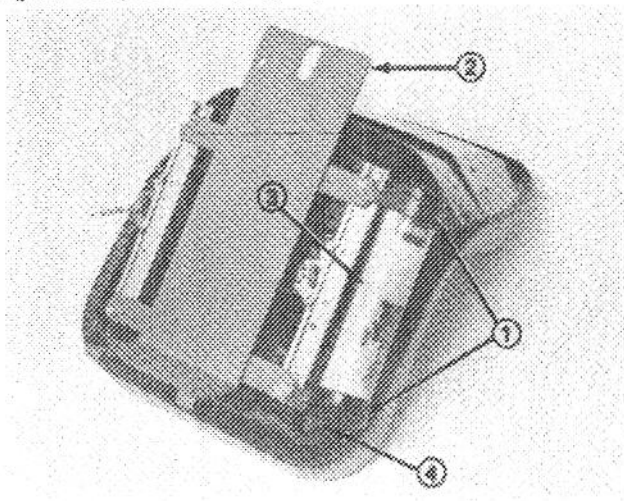

Figure 8
9. Loosely secure (2) R-clamps to right side of seat bottom with (2) capscrews supplied in kit (Fig. 8). Install manual tube into R-clamps and tighten capscrews (Fig. 8).